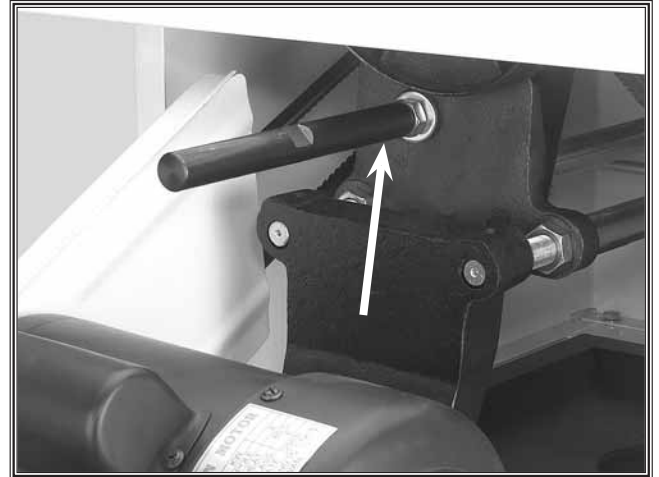

Figure 34. Splitter shaft installed.
1. Secure the shaft into the threaded hole above the motor mount with the 1/2" washer and hex nut (Figure 34).